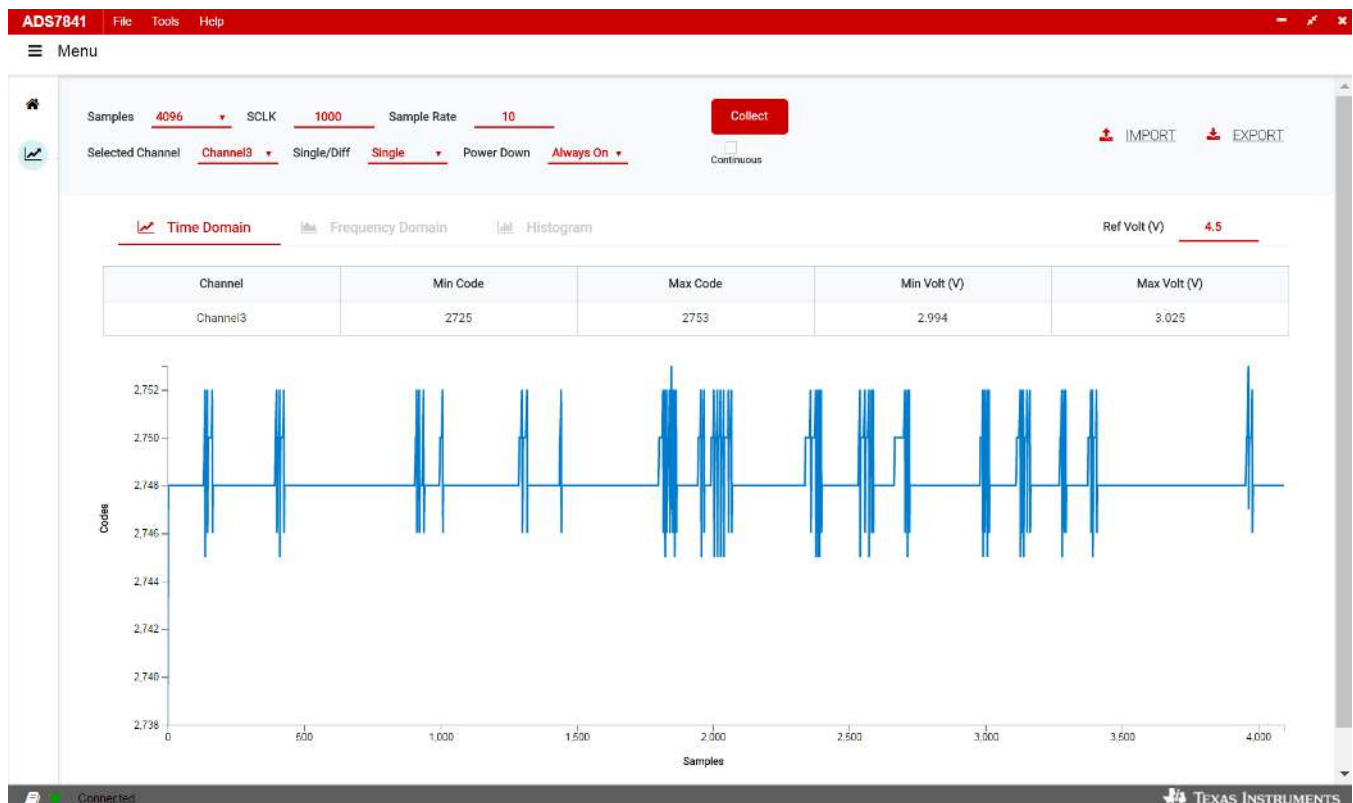

Figure 13. AIN3 (Channel3) Voltage
3. Make sure "Selected Channel" is Channel3, "Single/Diff" is selected as Single, and "Power Down" is Always On as shown in Figure 13 below.
5. Min Code, Max Code, Min Volt (V), Max Volt (V) read out are displayed as shown in Figure 13.